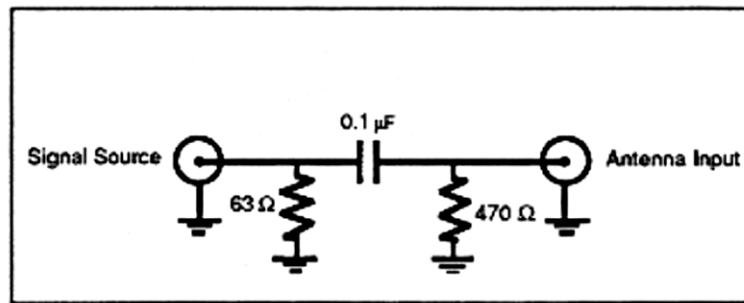

Figure 1.
To test the RF circuitry, a 100 kHz signal must be applied to the antenna input of the FS700. Because the FS700 is designed to provide power to the active antenna, the 100 kHz signal must be applied through a special ANTENNA TERMINATOR circuit shown in Figure 1. This terminator allows application of a signal while maintaining correct DC bias conditions.
- 6) Antenna Input Termination Adapter. Schematic is shown in TROUBLESHOOTING section Figure 1.